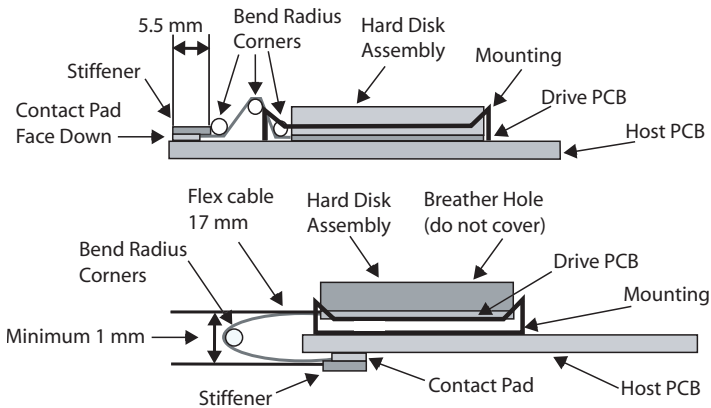

Figure 4 Examples of mounting with flex interface
- Do not bend the cable sharply as this may cause the electrical traces to be broken. See Figure 4.